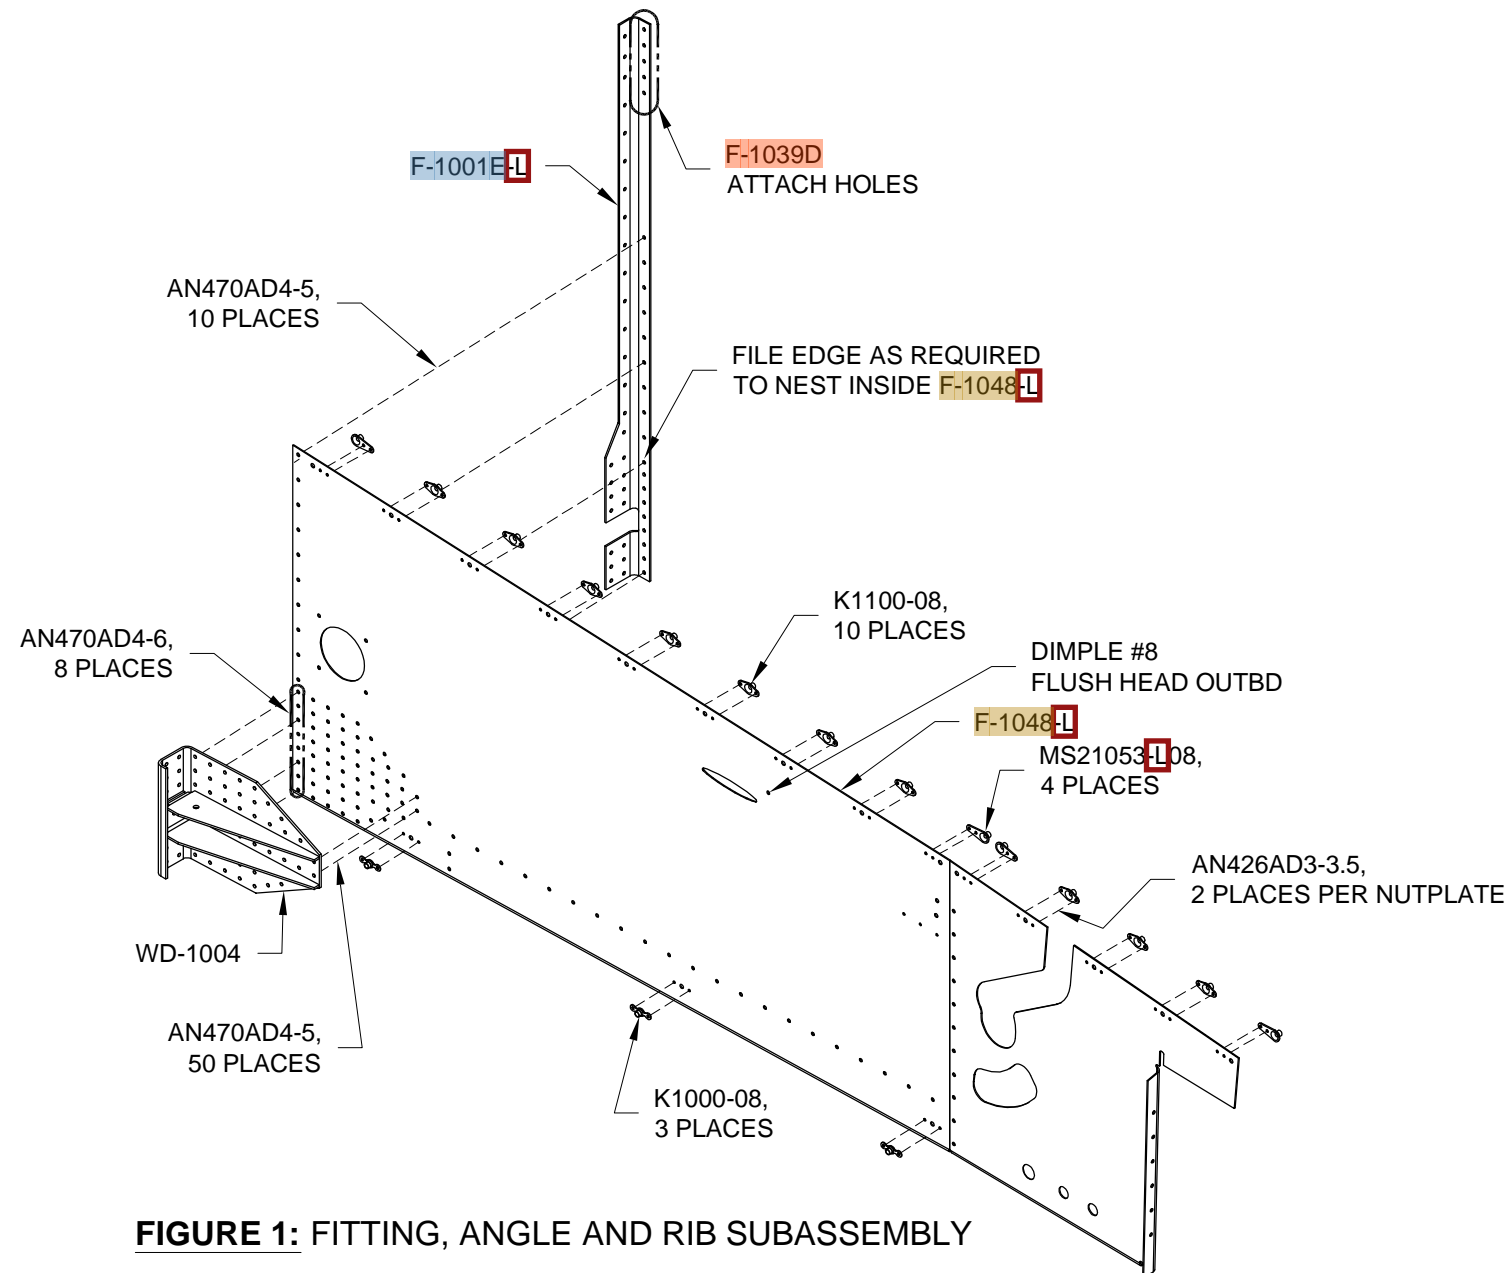

FIGURE 1: FITTING, ANGLE AND RIB SUBASSEMBLY
Step 6: Disassemble and deburr all parts assembled in Step 1 and Step 4. Dimple the nutplate attach holes in the **F-1048-L** and **R** Fwd Fuselage Ribs and the holes that attach the **F-1048C-1** Fuel Valve Bracket for the head of an AN426AD3 rivet. Final-Drill #19 then dimple (flush head outbd) the hole near the oval slot in the center of the fwd fuselage ribs (see Figure 1). Prime aluminum parts if/as desired.